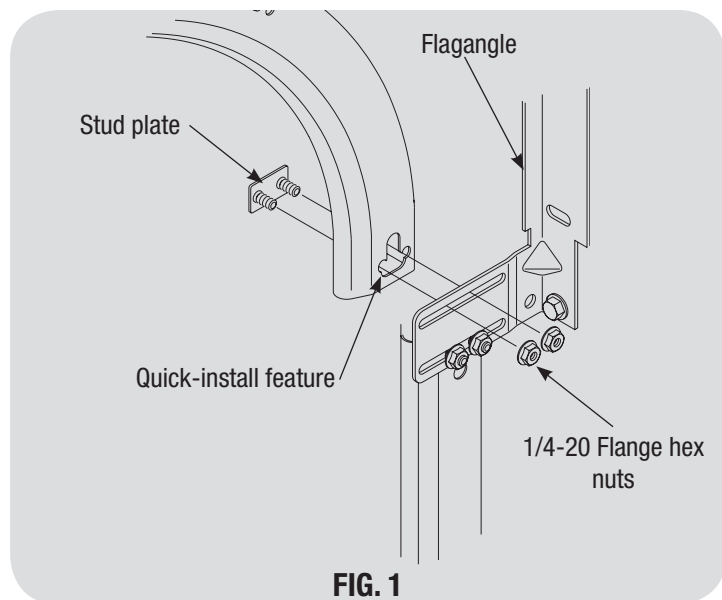

FIG. 1
Hand tighten the flagangle to the vertical track using a stud plate and (2) 1/4 - 20 flange hex nuts (see **Fig. 1**). Secure the flange nuts after flagangle spacing is complete (Steps 10A - 10B)